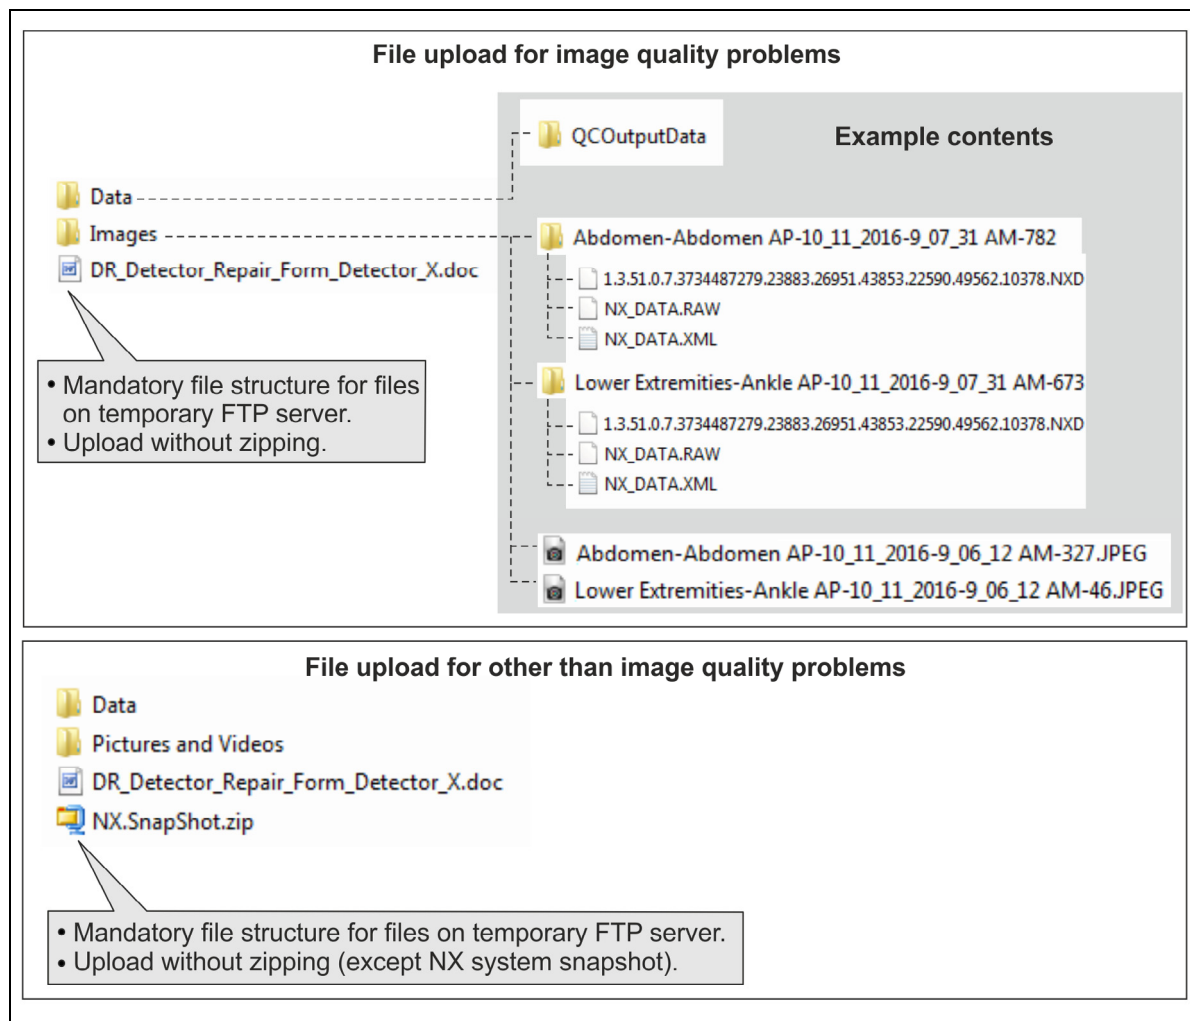

Figure 2: Required presentation of the data on the temporary FTP server. Copy of repair process version 1.0.
- The data are provided on a temporary FTP server in the file structure as indicated in the process. Refer to Figure 2.